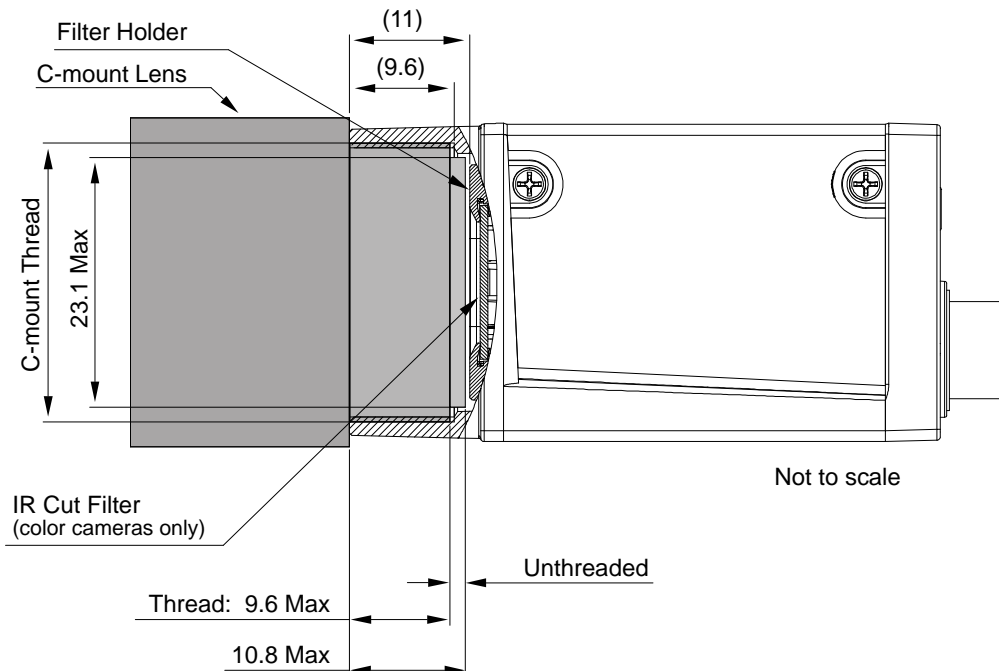

Fig. 32: Maximum Lens Thread Length (Dimensions in mm) for Cameras with the C-mount Lens Adapter
- Camera with C-mount lens adapter (see Figure 32):